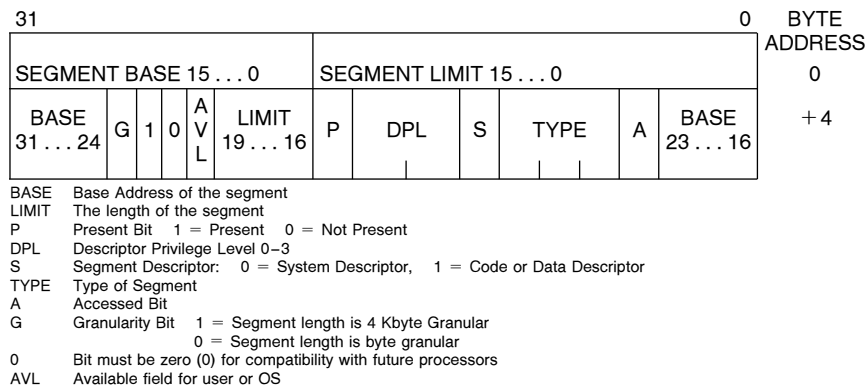

Figure 3.3. Segment Descriptors
ment, the 20-bit length and granularity of the segment, the protection level, read, write or execute privileges, and the type of segment. All of the attribute information about a segment is contained in 12 bits in the segment descriptor. Figure 3.3 shows the general format of a descriptor. All segments on the the 80376 have three attribute fields in common: the Present bit (P), the Descriptor Privilege Level bits (DPL) and the Segment bit (S). P = 1 if the segment is loaded in physical memory, if P = 0 then any attempt to access the segment causes a not present exception (exception 11). The DPL is a two-bit field which specifies the protection level, 0-3, associated with a segment.